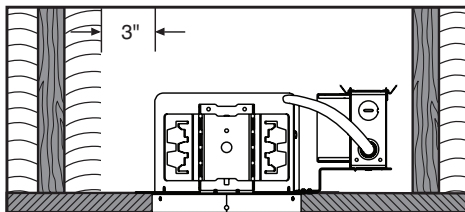

Figure 1
**WARNING:** Risk of fire. Do not install insulation within 3 inches of fixture sides or wiring compartment, nor above fixture in such a manner as to entrap heat. (Fig. 1)\*
Juno Type TC fixtures are designed for installations where housing and J-box will not come in contact with insulation. Insulation must be spaced 3" away from housing and J-box (Fig. 1). Improper fixture operation may indicate improper insulation application.